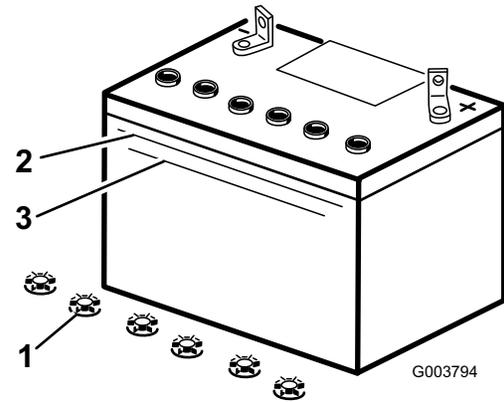

Figure 31
2. Look at the side of the battery. The electrolyte must be up to the Upper line (Figure 31). Do not allow the electrolyte to fall below the Lower line (Figure 31).
3. Remove the filler caps from the battery (Figure 31).
4. Slowly pour distilled water into each battery cell until the electrolyte level is up to the Upper line (Figure 31) on the battery case.
- Wait five to ten minutes after filling the battery cells. Add distilled water, if necessary, until the electrolyte level is up to the Upper line (Figure 31) on the battery case.